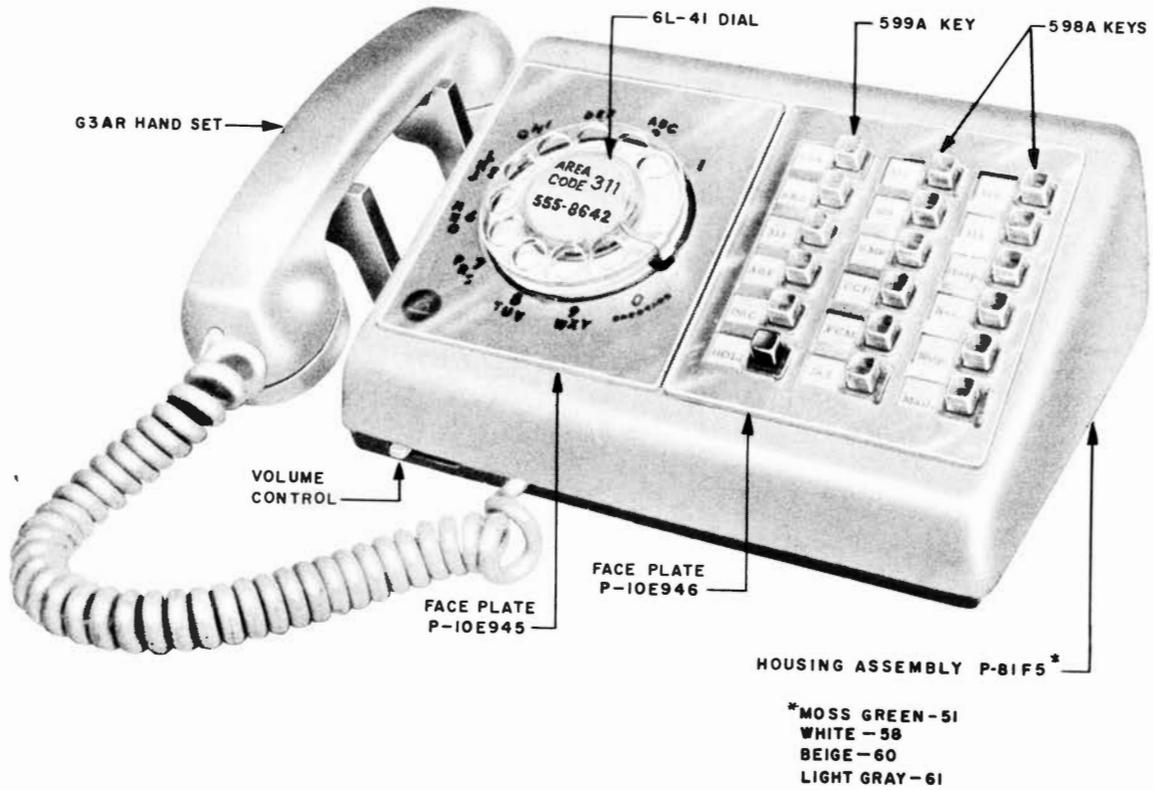

Fig. 1 - 600-Type Telephone Set
2.01 These sets are equipped with a colored plastic housing with a sloping front surface, in which are mounted a dial and either three or five 6-button keys (Fig. 1, 2, 3, and 4). The sloping front surface is covered by a colored mat held down by clear plastic faceplates. The colored handset is supported by a switchhook extending from left side of telephone set. Sets are available in moss green (51), white (58), beige (60), or light gray (61). Five mats are furnished with each set and are colored as shown in Table A.
2.02 The telephone circuit of these sets is similar to that of 500-type sets. They contain a 425B network, a D1A ringer, a switchhook supporting a G3AR hand set of matching color, and a 6L-41 dial (Fig. 1, 2, 3, and 4). The D1A ringer is a single-gong ringer and has a control mechanism arranged to vary the volume of the ringing from LOUD to OFF when control lever is moved through its full travel. Control lever projects through base at front of set. Some D1A ringers have been manufactured with an external terminal plate permanently attached and will not fit these sets. Therefore, use a D1B ringer when replacements are necessary. In addition to single-gong ringer, a 7-type buzzer or a KS-8109 buzzer may be mounted internally on a 65A bracket.